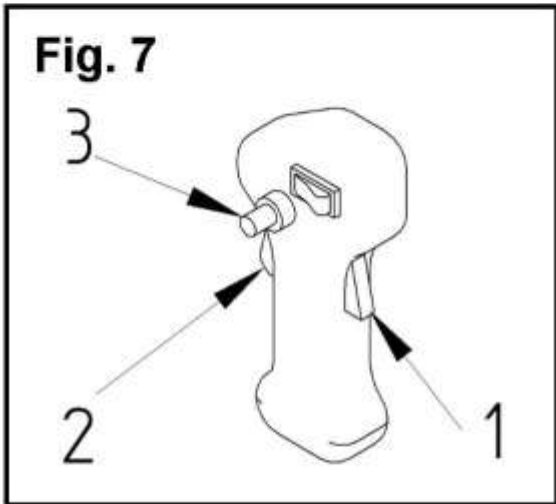

Fig. 7
4. Grip the throttle control handle by pressing the trigger lock-off lever (Fig.7-No1) with the palm of the hand, then fully depress the throttle trigger (Fig.7-No2) with your fingers and simultaneously push in the throttle lock-on button (Fig.7-No3) with your other hand.
9. Depress the throttle trigger (Fig.7-No2) and the throttle lock-off button will release automatically. The engine will idle and the clutch will disengage causing the cutting head to remain stationary.